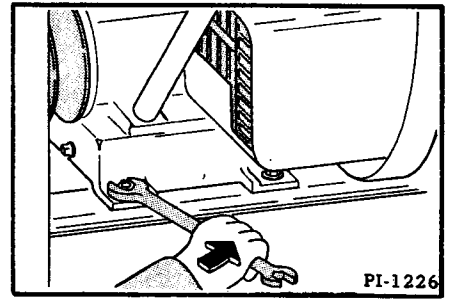

Fig. 151 Loosen the Engine Mounting
5. Loosen the engine mounting bolts (Figure 151).